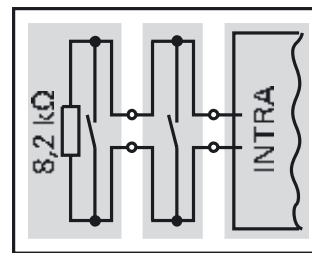

Fig. 10
- Several safety edges on the same input must be connected in series (Fig.10)
- The last safety edge must be terminated with an 8.2 kohm resistor (Fig.10)